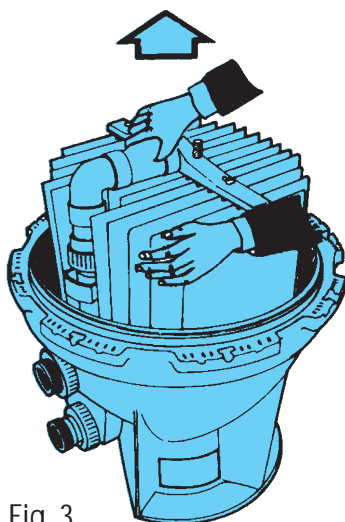

Fig. 3
3. Grasp element assembly at top manifold plate (Figure 3) and remove it.